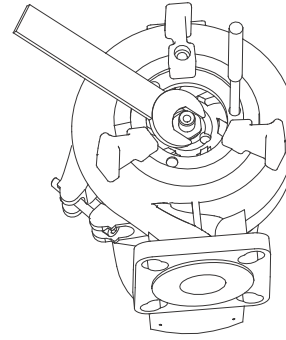

Fig. 10 Dismantling the screw and grinder head
6. Insert the punch (F) into the hole to hold the impeller to prevent it from moving during dismantling.
7. Remove the screw (188a) from the shaft end. Remove the locking ring (66). See fig. 10.